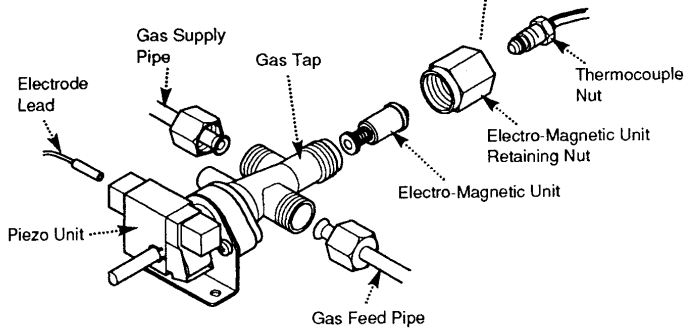

Fig. 60
**10.9 Gas Tap and Piezo Unit (Fig. 60)**
**10.10 Electro-Magnetic Unit (Fig. 60)**